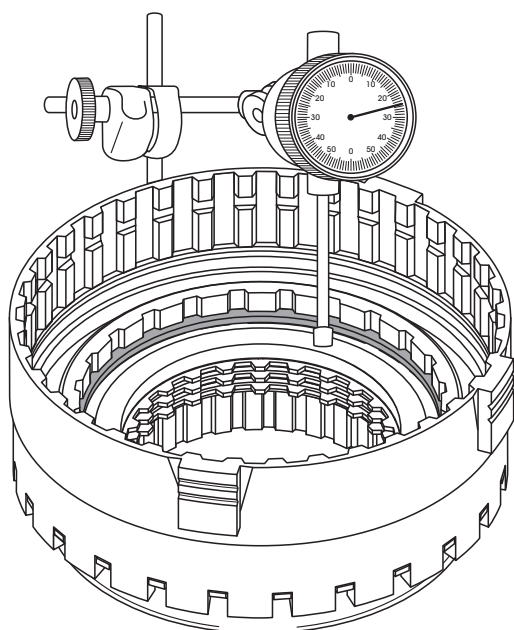

Figure 120
12. Install dial indicator on top of the intermediate clutch backing plate, as shown in Figure 120, and zero the dial indicator.